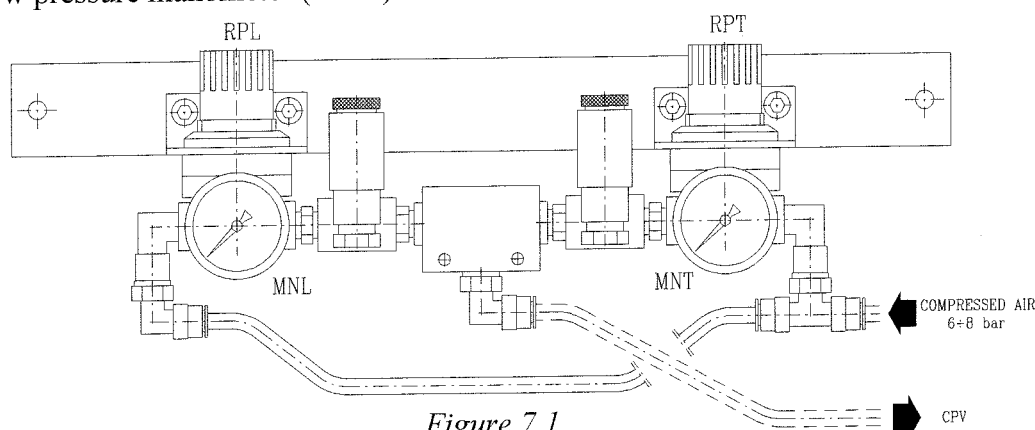

Figure 7.1
- no. 1 constant pressure valve, to maintain constant the counter-pressure at the outlet of the skim milk. The regulation is performed by acting on pressure regulators (RPL, RPT - fig. 7.1) placed on the back side of electric panel.
The supply is complete of the following pneumatic components (fig. 7.1):
- Rotate the pressure regulator of the bowl overflow RPT (fig. 7.1) until on MNT (fig. 7.1) could be read a pressure of about 4 bar.